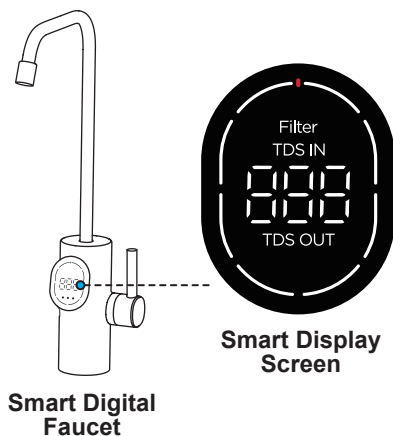

Figure 9
1. The system is powered on: All indicators flash 5 times (Figure 9).